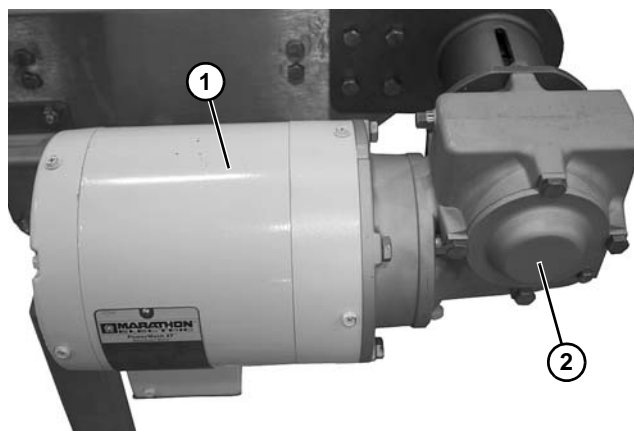

Figure 35
1. Attach the motor (**Figure 35, item 1**) to the gear reducer (**Figure 35, item 2**).